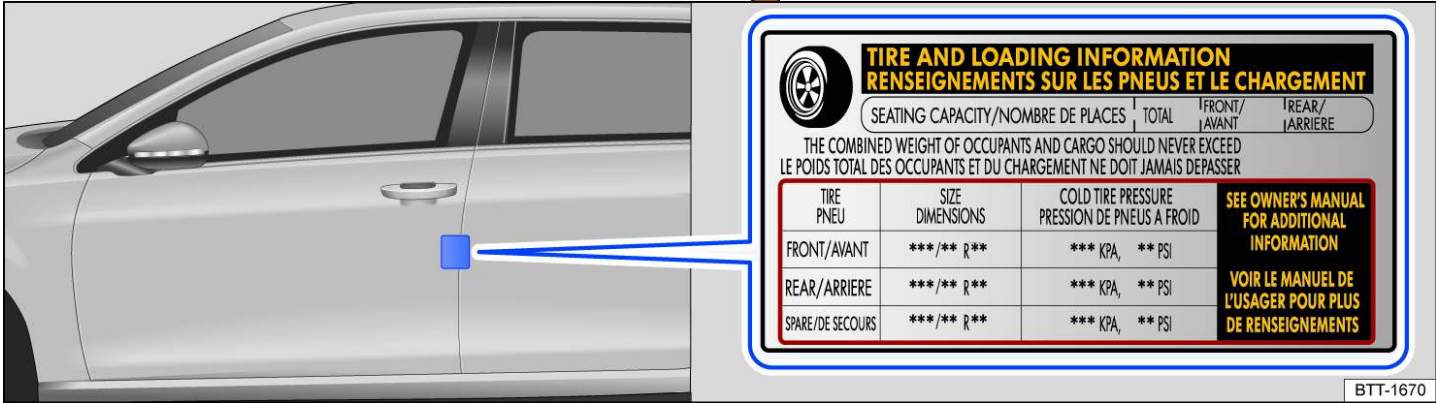

Fig. 149 On the driver door pillar: tire pressure sticker
The correct tire pressure for the tires fitted at the factory can be found on a label on the B-pillar of the driver door fig. 149. The factory-installed tires can be winter, summer or all-season tires.
- Always adjust the tire pressures to the vehicle load fig. 149.